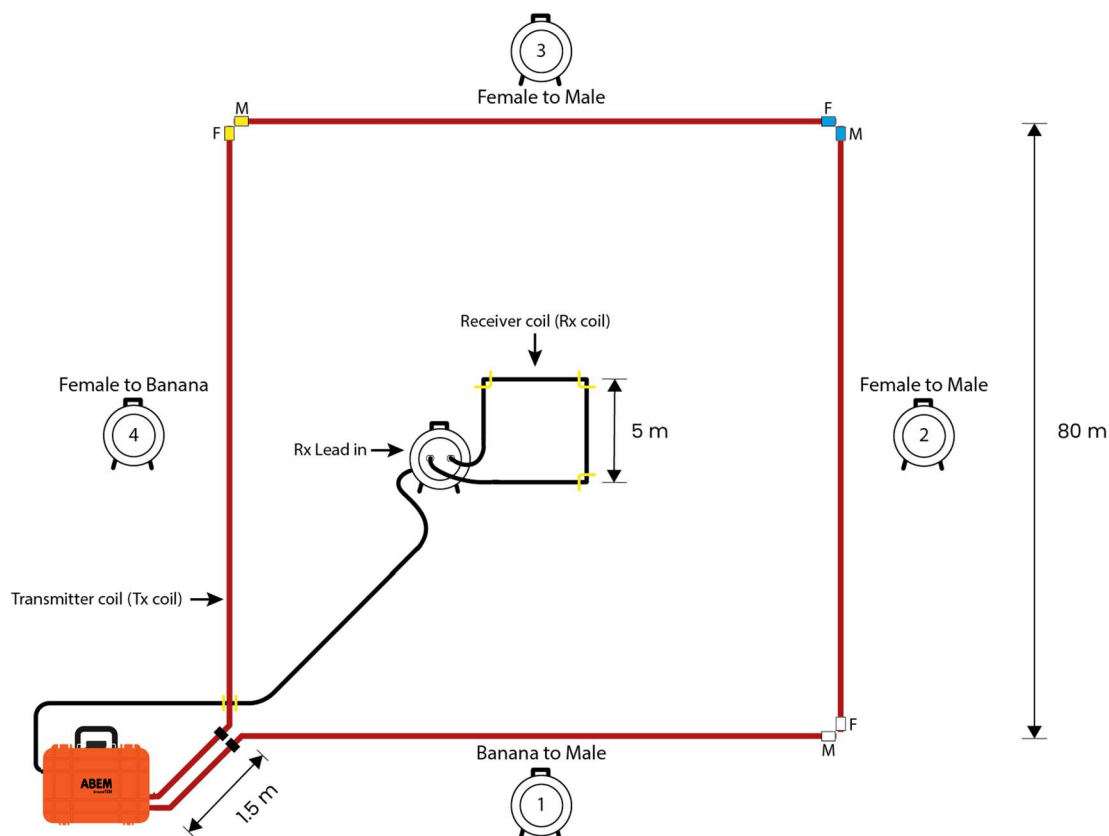

Figure 8 GroundTEM i-Series system layout with an 80 × 80 m Tx loop layout and 5 × 5 m Rx coil.
The 80 x 80 m Tx coil comes on four cable drums. Make sure to identify the two cable drums with the additional 1.5 m Tx-lead-in and use these cables for the 1st and 4th sides of the Tx coil (Figure 8). Follow the coloured connectors in the beginning and at the end of each cable, for easier laying out.
- Locate the opposite diagonal Tx-corner and walk towards this while rolling out the entire Rx lead-in cable. The end point of the lead-in cable drum marks the first corner of the Rx coil (see Figure 5 and Figure 8).
- Layout the Rx coil in a square as shown in Figure 5 / Figure 8 and connect it to the Rx lead-in cable drum (see Figure 9).
- In the home corner, connect the Rx lead-in cable to the GroundTEM unit. The extra Rx lead-in cable should be placed as in Figure 5 / Figure 8, crossing the Tx-cable perpendicular.
- Rx lead-in drum must have the connectors horizontally as shown in Figure 5 / Figure 8.